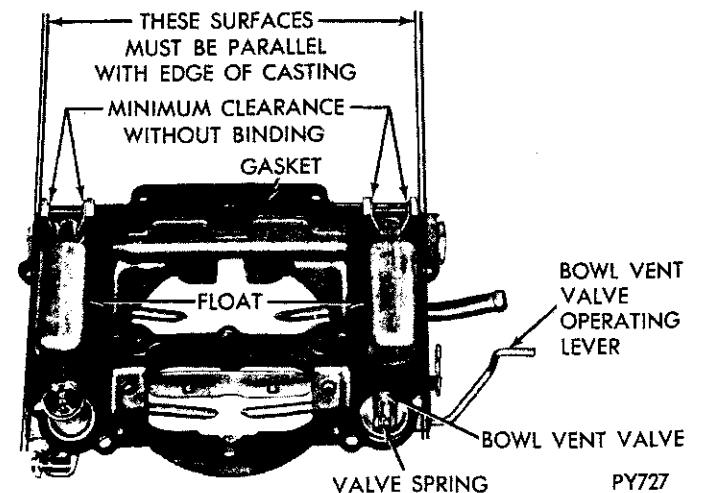

Fig. 9—Checking Float Alignment
(1) Sight down side of each float shell to determine if side of the float is parallel to outer cage of air horn casting (Fig. 9).
(2) If sides of float are not in alignment with edge of casting, bend float lever by applying pressure to end of float shell with thumb. **To avoid damage to the float, apply only enough pressure to bend the float lever.**
(3) After alining floats, remove as much clearance as possible between arms of float lever and lugs of air horn. To do this, bend float lever. The arms of float lever should be as parallel as possible to inner surfaces of lugs of casting.